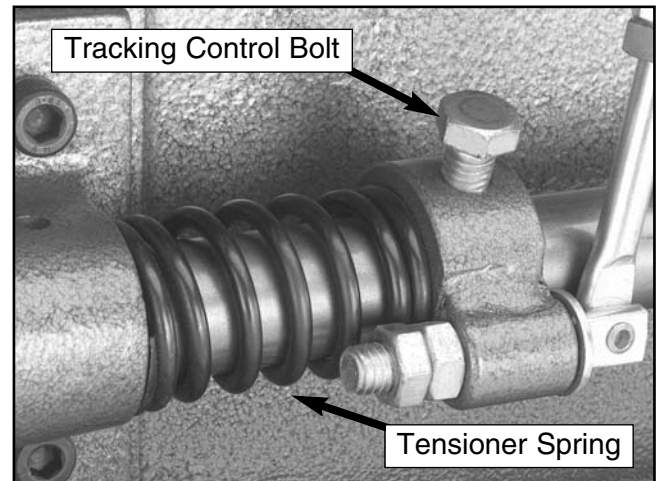

Figure 36. Tensioner spring and tracking control bolt.
The tensioner spring (shown in **Figure 36**) applies pressure to the sanding belt when the belt tension lever is in the tension position. When repeated adjustments are made to the tensioner nut, the spring tension may lose the original setting from the factory, at which point it will need to be reset.
- Loosen the tracking control bolt (**Figure 36, page 25**).